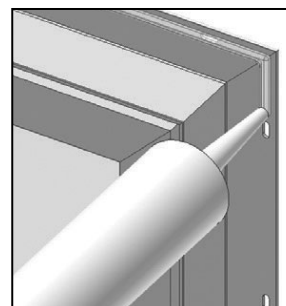

FIG. 11
- b. Bead must run continuously around both sides and across the head, in line with and completely covering the nailing flange holes. (Fig. 11)